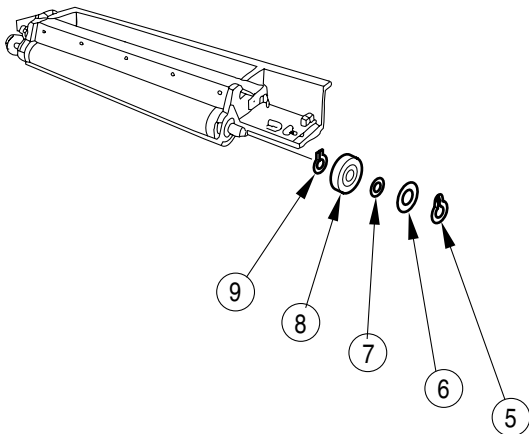

Figure 4-607
- 7) Remove the grip ring ⑤, plastic film ⑥, spacer ⑦, roll ⑧, and C-ring ⑨ in the order shown in Figure 4-607 from the cylinder shaft at the front of the developing assembly.